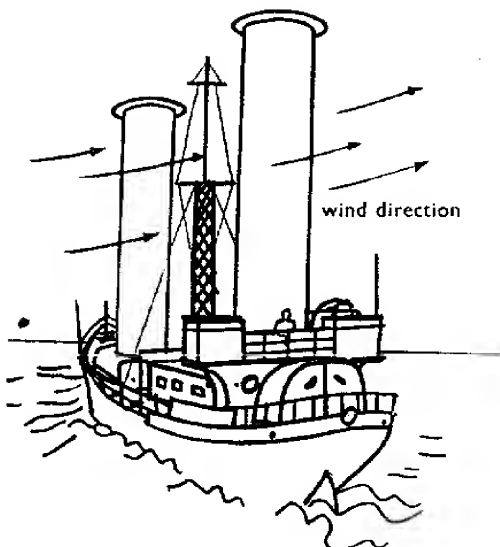

Fig. 32
An experimental ship once crossed the Atlantic using two rotating cylinders instead of sails. If the wind were blowing in the direction shown (Fig. 32) would the cylinders have to rotate in a clockwise or anticlockwise direction as seen from above? (19)